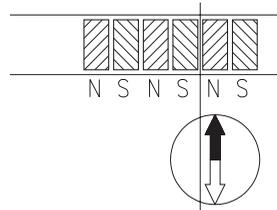

Fig. 15: Determination of the pole position. Cutting the magnetic strip
- If necessary, use a compass needle to determine the location of the poles on the magnetic strip (fig. 15).